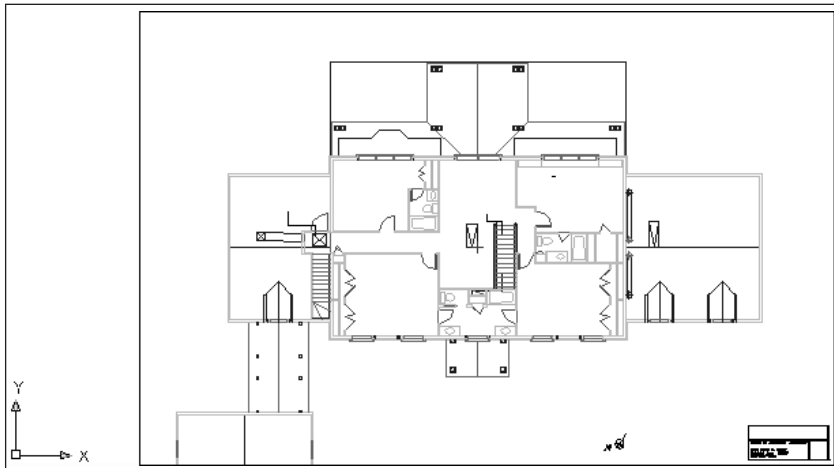

Figure 19-4: The current drawing is blank but displays an xref of a house plan that has a nested xref of a title block.
10. Save your drawing. It should look like Figure 19-4.